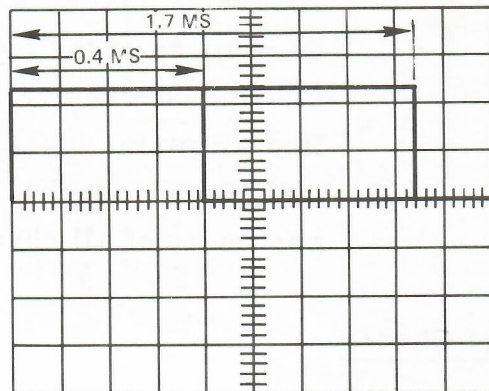

Figure 2-17. Index Pulse Duration
- e. Set oscilloscope as follows to monitor INDEX pulse duration, as shown in Figure 2-17.